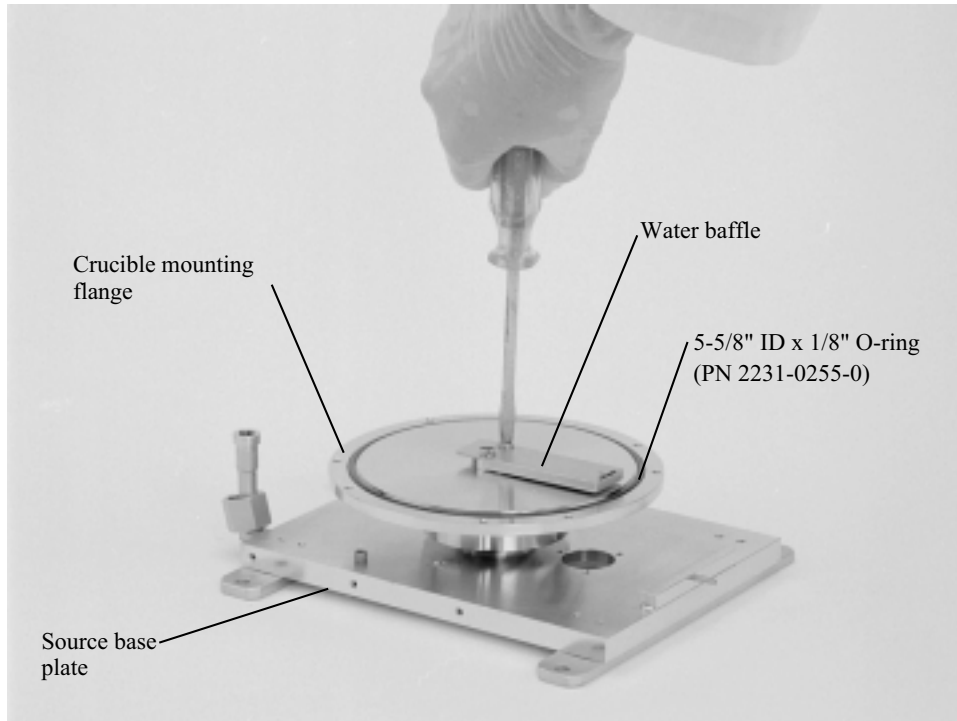

Figure 6-20. Detaching the water baffle
Step 20: Remove the two 8-32 1/4" pan-head screws that secure the water baffle to the pivot shaft and remove the water baffle (see Figure 6-20).